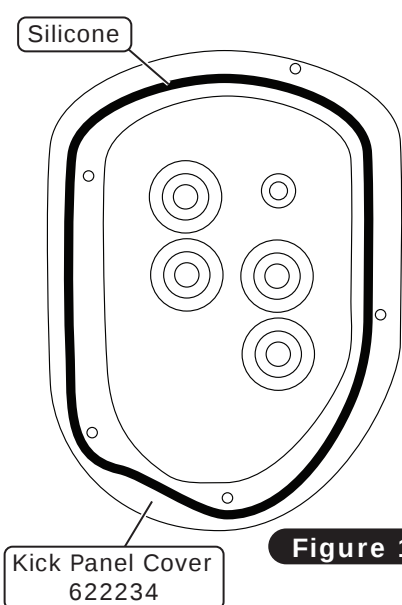

Figure 1
1. Apply a bead of silicone around the mating surface of the kick panel cover (See Figure 1, below).
3. Install the kick panel, routing the hoses and wiring through the opening. Secure the panel using (4) #8 x 1 ¼" countersunk screws with washers (See Photo 1, below). **NOTE: Use only the mounting holes shown in Photo 1, below, at this time.**